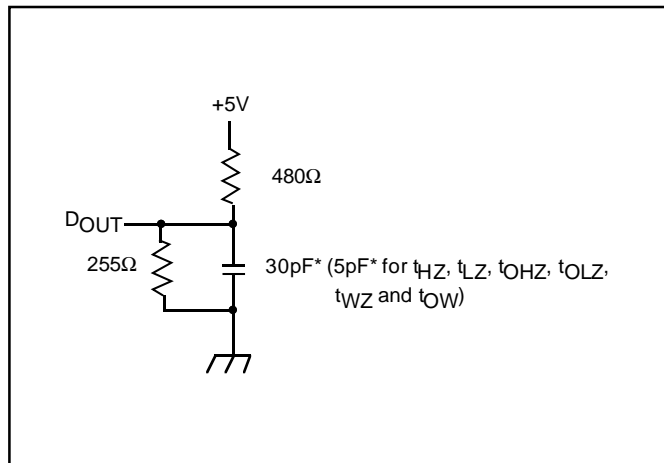

Figure 1. Output Load
9. Transition is measured $\pm 200\text{mV}$ from steady state voltage prior to change, with loading as specified in Figure 1.
Output Load	See Figures 1 and 2